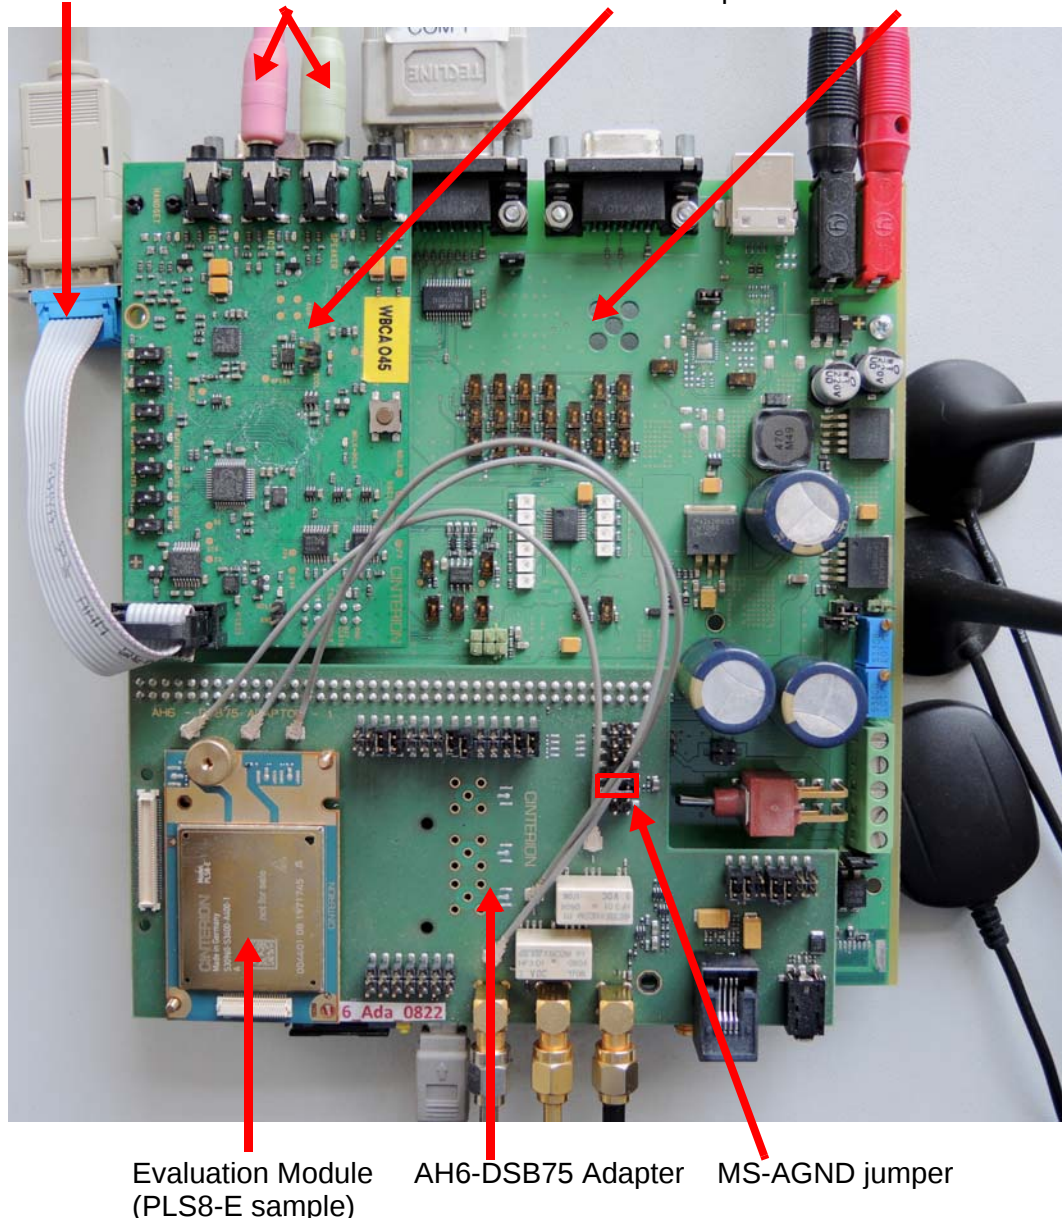

Figure 11: Audio codec adapter setup
The Audio Codec Adapter setup with DSB75 and AH6-DSB75 Adapter is based on the reference environment for development, test and approval purposes that is described in the Startup User Guide of a specific module. For detailed information on the startup environment please refer to [4]. The Audio Codec Adapter setup comprises the following hardware components: DSB75 Development Support Board, AH6-DSB75 Adapter, Evaluation module as well as Audio Codec Adapter. The below Figure 11 shows how these hardware components are assembled - with all jumper settings and switches in their default positions.
1 The module (configuration) is a slave for clock as well as frame synchronization signals generated on the Audio Codec Adapter. **Note:** In this case the MS – AGND jumper on AH6-DSB75 Adapter (X305) must be removed for correct signal directions through the AH6-DSB75 Adapter's voltage converters. The MS - AGND jumper is show in Figure 11.
1. The module (configuration) is a slave for clock as well as frame synchronization signals generated on the Audio Codec Adapter. **Note:** In this case the MS – AGND jumper on AH6-DSB75 Adapter (X305) must be removed for correct signal directions through the AH6-DSB75 Adapter's voltage converters. The MS - AGND jumper is show in Figure 11.